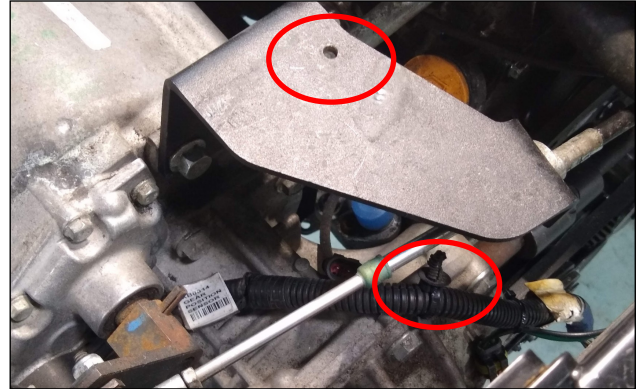

Fig. 8.1 Supplied Transmission Cable Bracket
- 8.1 Per fig. 8.1, install the supplied transmission cable bracket using the hardware removed in step 1.17 and **torque to 34 ft lbs.** Reinstall the retaining clip removed in step 1.15.